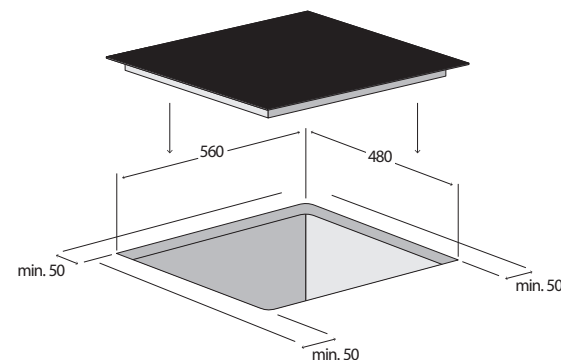

Fig. 5
- The appliance should be assembled into correct built-in units and work surfaces that align to the standards and have dimensions shown in Fig. 5.
2. The required dimensions of the built-in space in the worktop made of heat-resistant material of a minimum thickness of 38–40 mm are on Fig. 5.